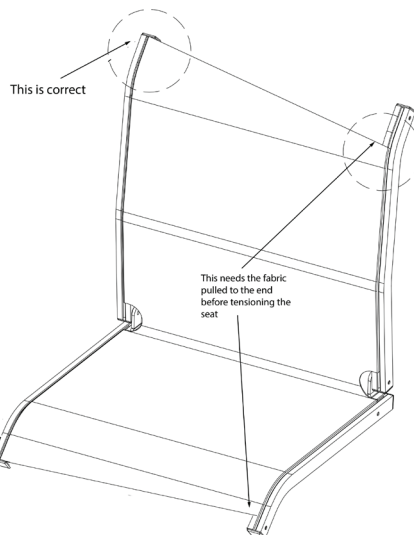

Figure 29
STEP 14: Make sure the seat fabric is pulled all the way to the end of each seat frame as shown in Figure 29. If it is not, this is the time to do it. Pull the fabric with your hand until it is to the end.